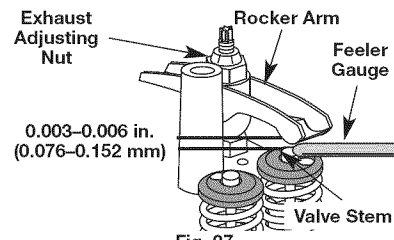

Fig. 27
7. Slide the feeler gauge between the rocker arm and the valve return spring. Measure the clearance between the valve stem and rocker arm (Fig. 27). Measure both the intake and exhaust valves.
- a. Turn the adjusting nut using a 5/16 inch (8 mm) wrench or nut driver (Fig. 27).